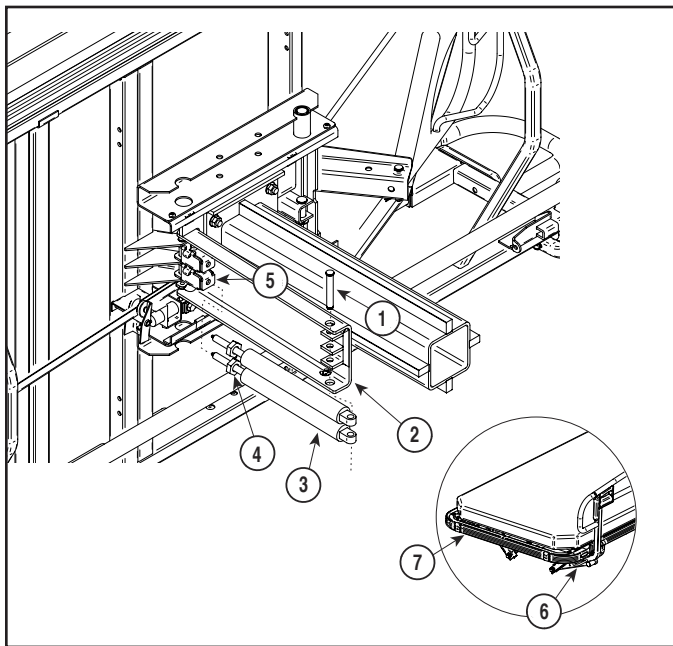

Figure 4-7 Trendelenburg Gas Spring Removal / Installation
- (4) Support litter top of stretcher, then remove clevis pin and E-ring (1, Figure 4-7) from pivot plate (2) and separate bottom of Trendelenburg gas springs (3) from pivot plate.
- (5) Loosen jam nut (4) of Trendelenburg gas spring that is to be replaced.
- (6) Unscrew rod of Trendelenburg gas springs (3) from actuator (5).
- (1) Extend rod of new Trendelenburg gas spring (3) by screwing it into the actuator (5) until it begins to extend rapidly.
- (2) Prior to installing on stretcher. Turn cylinder back two full 360 degree turns. Align bottom clevis pin holes of both cylinders. Clevis pin should slide freely through both.
- (3) Position bottom of Trendelenburg gas spring (3) on pivot plate (2). Insert clevis pin and secure with e-ring.
- (4) Squeeze the Trendelenburg handle (6). The Trendelenburg gas springs (3) should release when the handle is squeezed - meaning the litter top (7) should be able to be raised and lowered. Release the Trendelenburg handle. Put pressure on one end of the litter top and then on the other end. The litter top should not “drift” upward or downward.
- (5) If the Trendelenburg gas spring (5) does not release when the Trendelenburg handle (6) is squeezed, adjust as follows: Support litter top of stretcher, then remove lower clevis pin from pivot plate (1, Figure 4-7) out of pivot plate (2) and separate bottom of Trendelenburg gas springs (3) from pivot plate. Screw rod of Trendelenburg gas springs (3) from actuator (5) in 1/2 turn. Repeat steps 4 and 5 until the Trendelenburg gas spring releases properly.
- (6) If the Trendelenburg gas spring (5) “drifts” downward when pressure is applied to either end of the litter top (7), adjust as follows: Support litter top of stretcher, then remove lower clevis pin (1) from pivot plate (2) and separate bottom of Trendelenburg gas springs